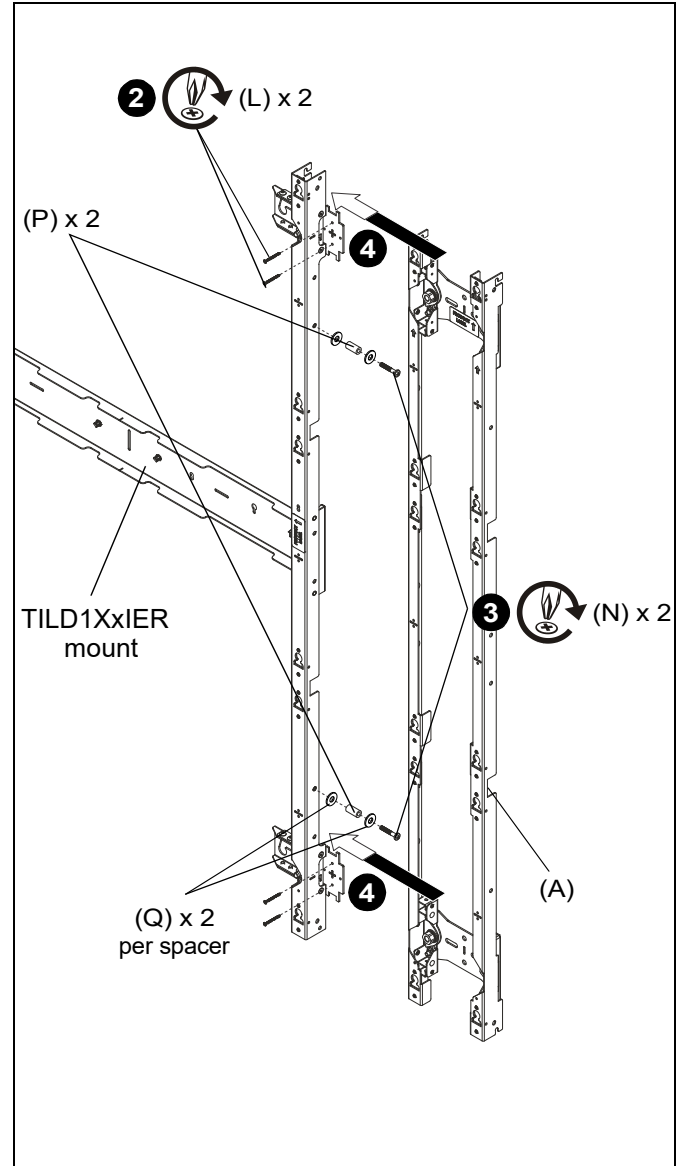

Figure 7
2. Use two #8 x 2" Phillips drywall screws (L) to secure each spacer plate to wall. (See Figure 7)
3. (Optional) For additional stability, install stability spacers (P) using 1/4-20 x 1/2" Phillips head cap screws (N) and two 1/4" washers (Q) per spacer. (See Figure 7)
4. Slide main assembly (A) onto spacer plates (D) and hold against wall in mounting position. (See Figure 7)